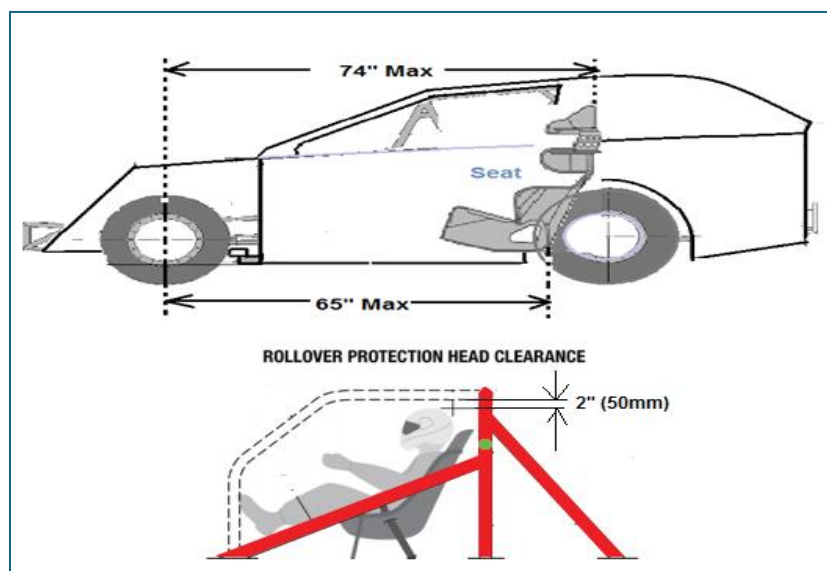

Figure 14
- 20.7** Bottom rear of seat must not be positioned more than 65-inch rearward, measured from the centre of either of the front spindles (*Figure 14*).
- 20.8** Seat may be tilted back for added driver head clearance; however, no portion of the seat may be set back more than 74 inches measured from the centre of either front spindle (*Figure 14*).
- 20.9.** The minimum helmet clearance inside the roll cage is to be 50mm from all roll bars (No tolerance). Measurement is taken from the underside of the overhead roll cage bars to the top of the helmet with the driver seated and in full harness (*Figure 14*).